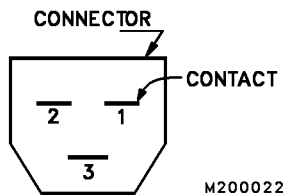

FIGURE 20-12. SENSOR SIDE CONNECTOR VIEW
2. Install a new O-ring onto adapter (3) and install complete adapter/sensor assembly onto valve (2). Hold the valve body and tighten adapter/sensor assembly to **103 ft.lbs. (176 N.m)** torque.
3. Connect the sensor wiring to the truck wiring harness. The sensors have three wires. Be sure that wires are connected correctly. (Figure 20-12)